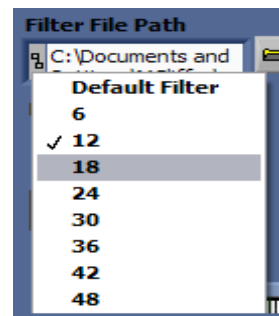

Figure 12. Number of coefficients to be sent to the AD7763 device.
- a) Select the number of coefficients that will be downloaded – this is half the filter length – so if you have a 24 tap filter you select 12 in the drop down selection shown in Figure 12.